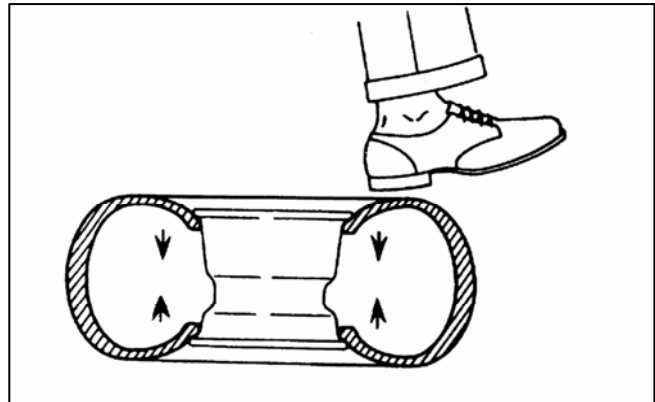

Figure 6-1
3. If tire machine is unavailable, lay wheel assembly on ground (valve stem side up) and break the tire bead from the wheel (Figure 6-1).